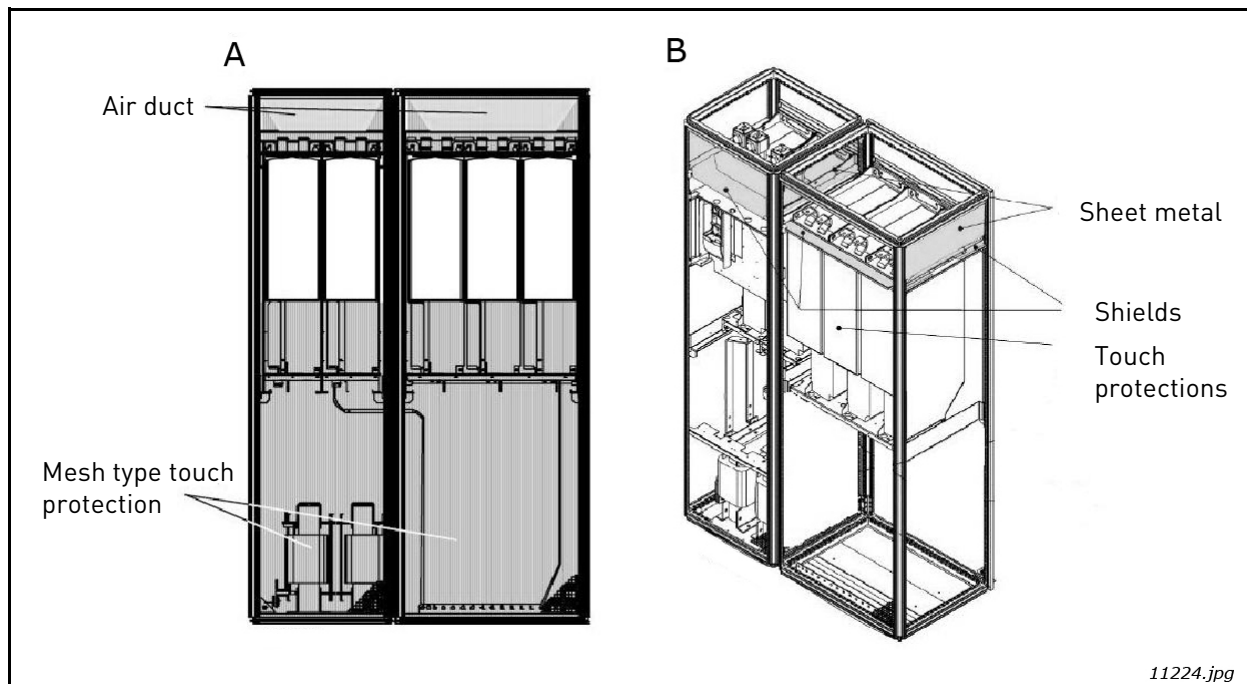

Figure 44. Cabinet cooling airflow guides
- A. Install a closed air duct from the power unit to the outlet on top of the enclosure (A in Figure 44).
- B. Install shields in the gaps between the power unit and the cabinet walls (B in Figure 44).